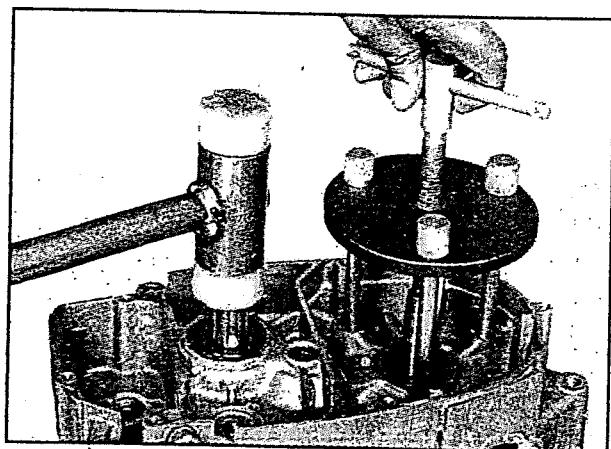

Fig 3.39
- Separate the crankshaft by using the special tool and plastic hammer (fig 3.39)